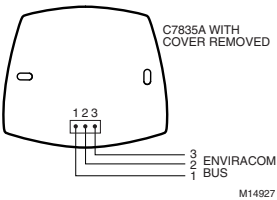

Fig. 4. DATS wiring to Enviracom™ bus.
- 5. Connect the three DATS terminals, see Fig. 4, using standard thermostat wire, to any convenient Enviracom 1,2, and 3 terminal connection. Observe that the red heating and green cooling lights come on momentarily.